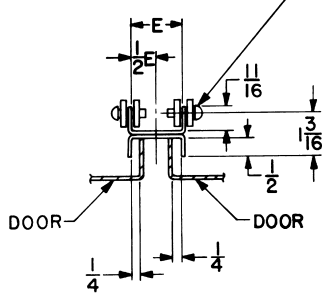

Figure 2
(1) $\frac{1}{4}$ DRILL IN EACH LEG OF INSIDE DOOR CHANNEL AT ϕ OF VAULT HANDLE APPLICABLE TO FIGURES 2 & 3.